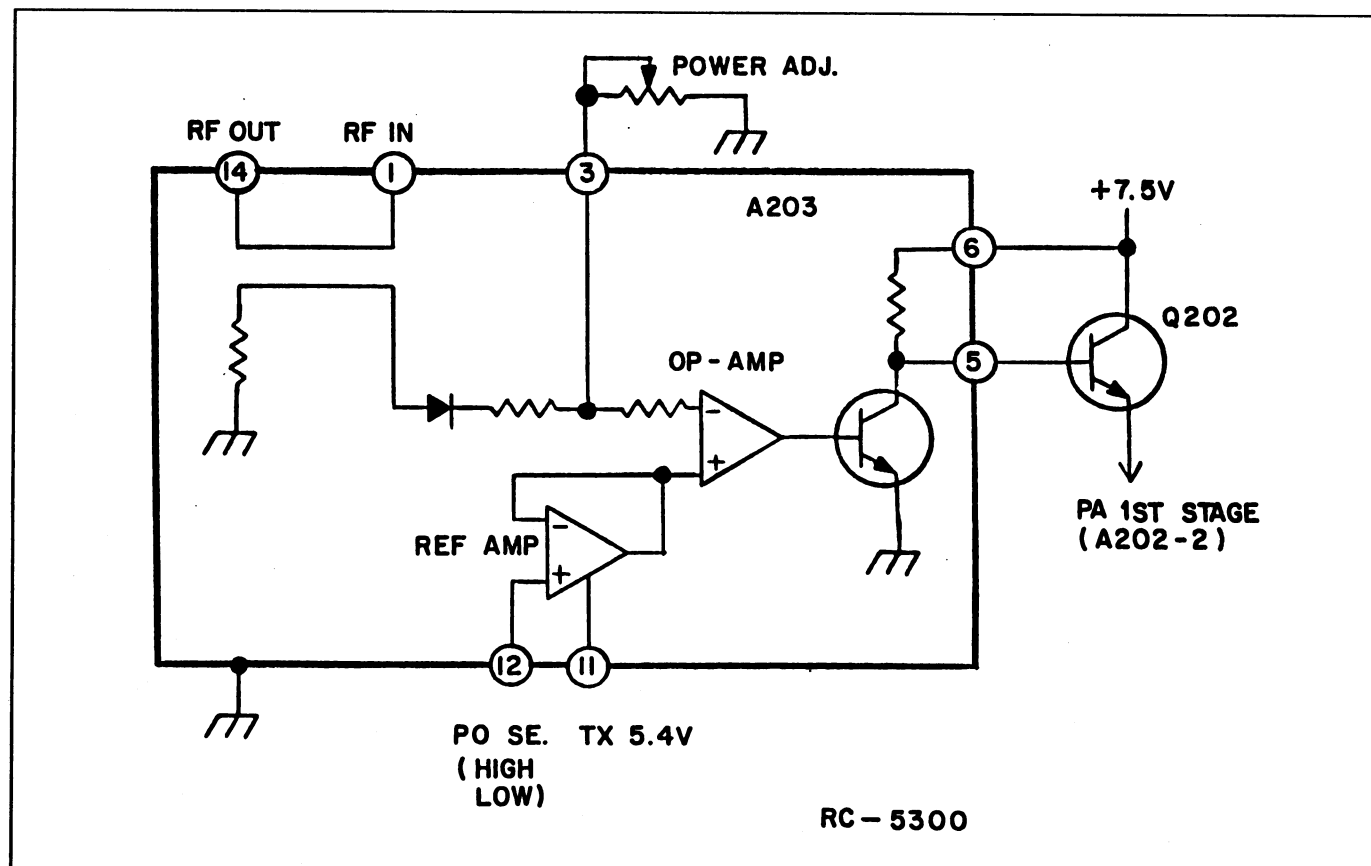

FIGURE 5 - POWER CONTROL MODULE (PC)
The rf power output of the radio is regulated by sensing variations in the rf power output of the transmit PA module. These variations are used to control the supply voltage to the first stage of the PA module (Figure 5). Supply voltage cannot be applied to the first stage of the PA module until the transmit circuit is keyed, applying 5.4 volts to pin 11 of Power Control (PC) hybrid IC A203. When the transmit circuit is keyed, the output of a reference amplifier is applied to the positive (+) input of a comparator.